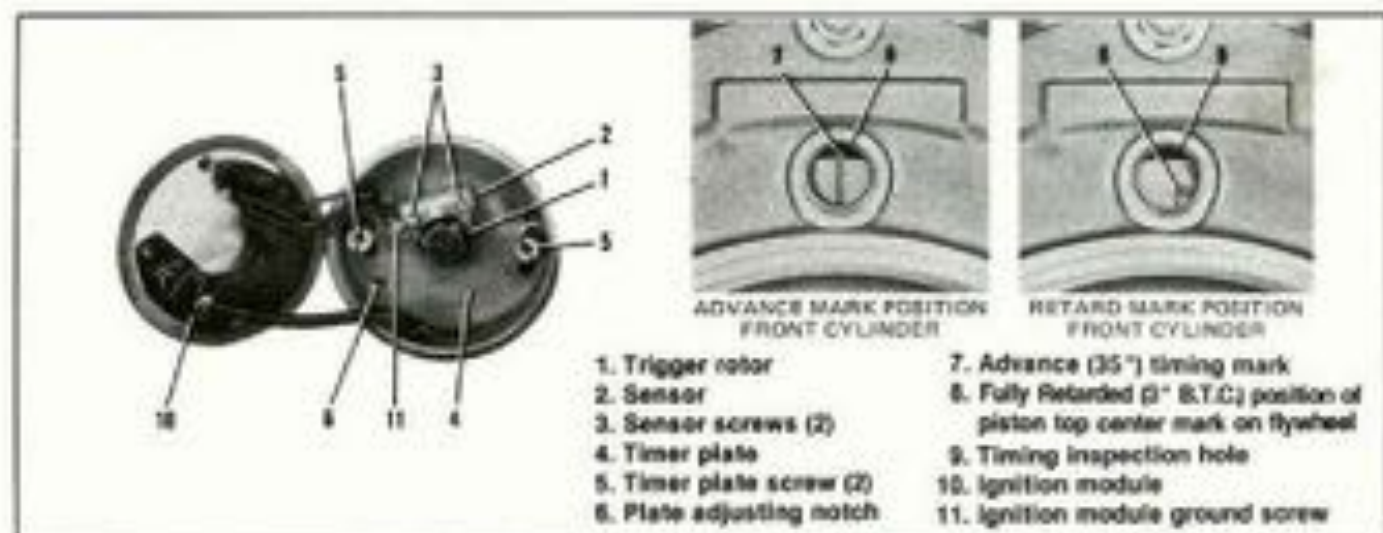

Figure 8-3. Ignition Timer and Flywheel Timing Marks
## ADJUSTING SENSOR AIR GAP (See Figure 8-3)
### CHECKING ADVANCE TIMING WITH STROBE TIMING LIGHT (Figure 8-3)
### SETTING RETARDED TIMING WITH CIRCUIT TESTER (See Figure 8-3)
light goes on or off when piston top dead center timing mark is aligned in inspection hole (9) as shown in Figure 8-3.
6. Tighten screws (5) to 12 to 18 in-lbs torque.